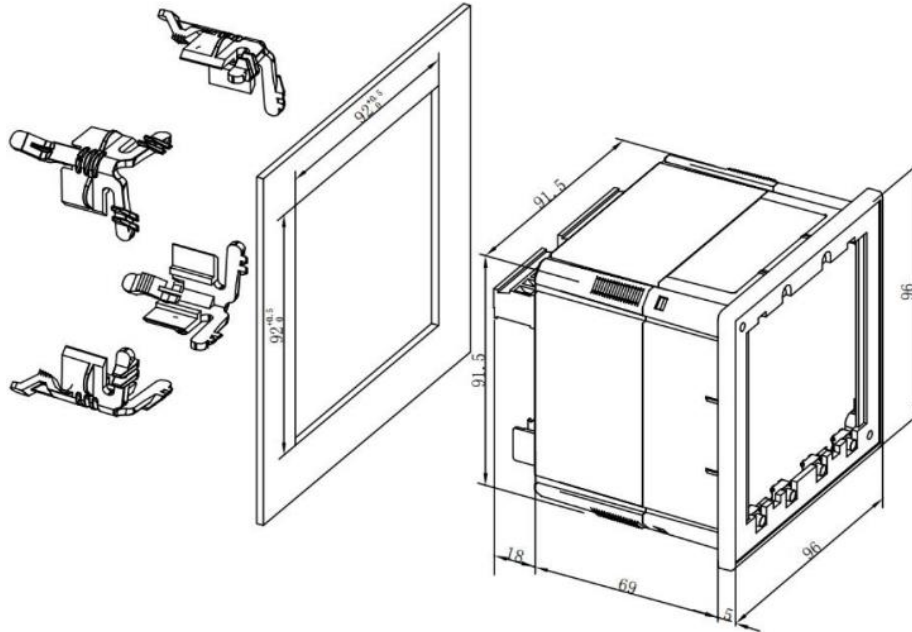

Figure 2-5 Panel Cutout Mounting
- Fit the meter through a 92mmx92mm cutout as shown in Figure 2-5